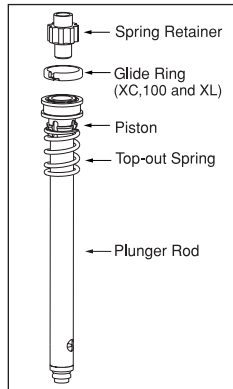

Fig. 9
12. Remove damper assemblies from upper tubes using small tip internal snap ring pliers, note orientation of all parts. The right damper rod includes a plunger rod, glide ring, top-out spring, spring retainer, piston and shuttle valves and wavy washers; the left leg includes a plunger, top-out spring, spring retainer, glide ring (XC, 100 and XL only) and piston (See Fig. 9 and 10).
- 1. Install new damper kit into upper tubes. Make sure all parts are cleaned and installed in the proper order (see page 13, Fig.9 and 10).